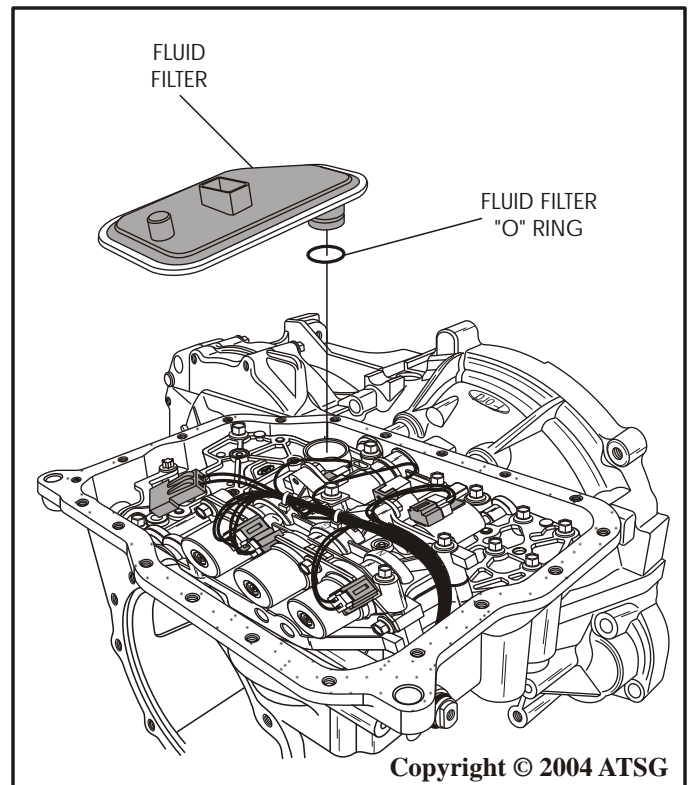

Figure 35
31. Remove the fluid filter by pulling straight up, as shown in Figure 35.